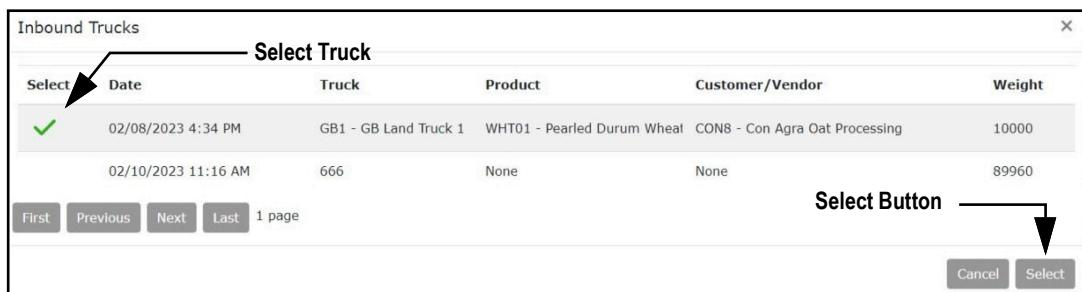

Figure 9-10. Inbound Trucks Window
4. The Inbound Trucks window displays (see Figure 9-10 on page 142).